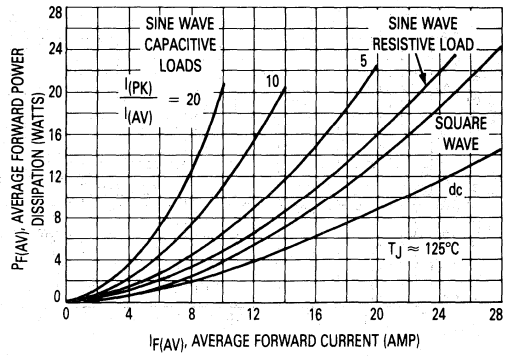

Figure 4. Forward Power Dissipation
- Step 3: Find $P_{F(AV)}$ from Figure 4. ** Read $P_{F(AV)} = 12.8 \text{ W}$